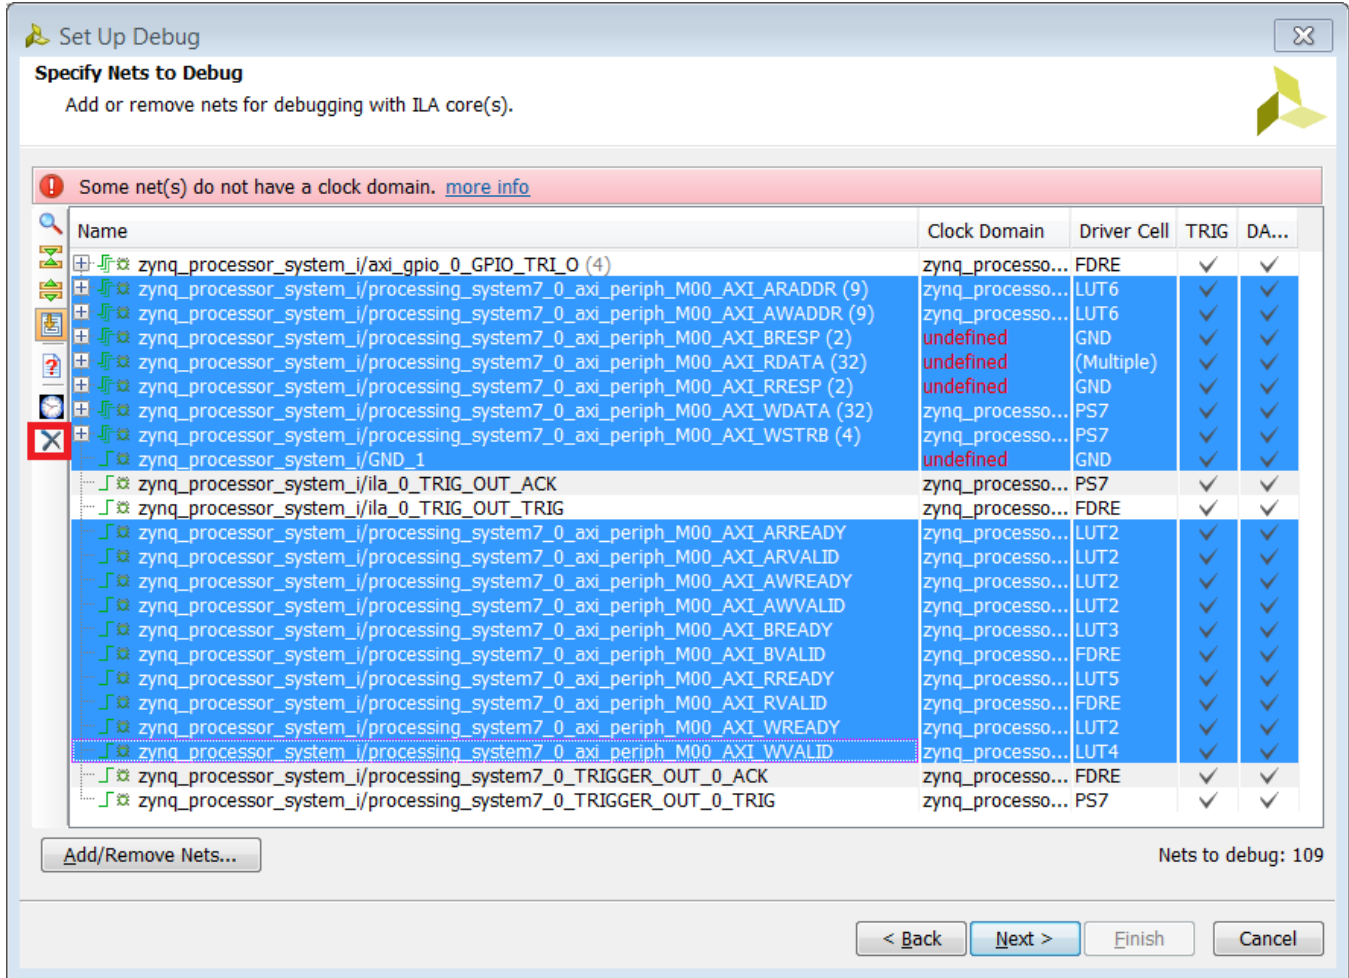

Figure 65: Specify Nets for Debugging
3. In the **Specify Nets to Debug** page, select the nets that you are interested in monitoring from the list of nets that are offered (FIGURE 65). Select everything except the following nets:
- zynq_processor_system_i/axi_gpio_0_GPIO_TRI_O (4)
4. Click the **Delete** button, highlighted in **FIGURE 65**.